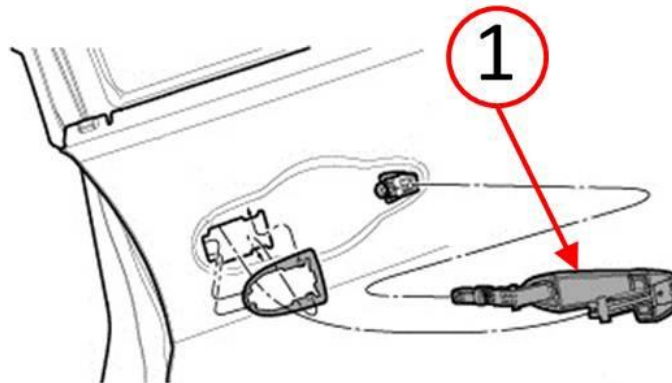

Fig. 7 Remove Door Handle
8. Rotate the exterior door handle out of the door removing the door handle from the vehicle (Fig. 7).